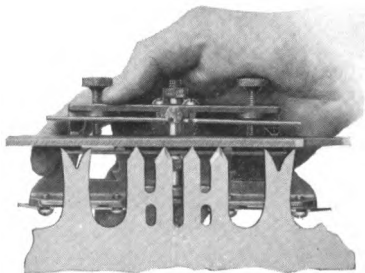

Fig. 1—JOINTING
**First**—That the teeth be uniform in length. To accomplish this, place a file edgewise in the frame and secure it by thumbscrews. Pass the tool lightly over the teeth until file touches the shortest cutting tooth. See Fig. 1.